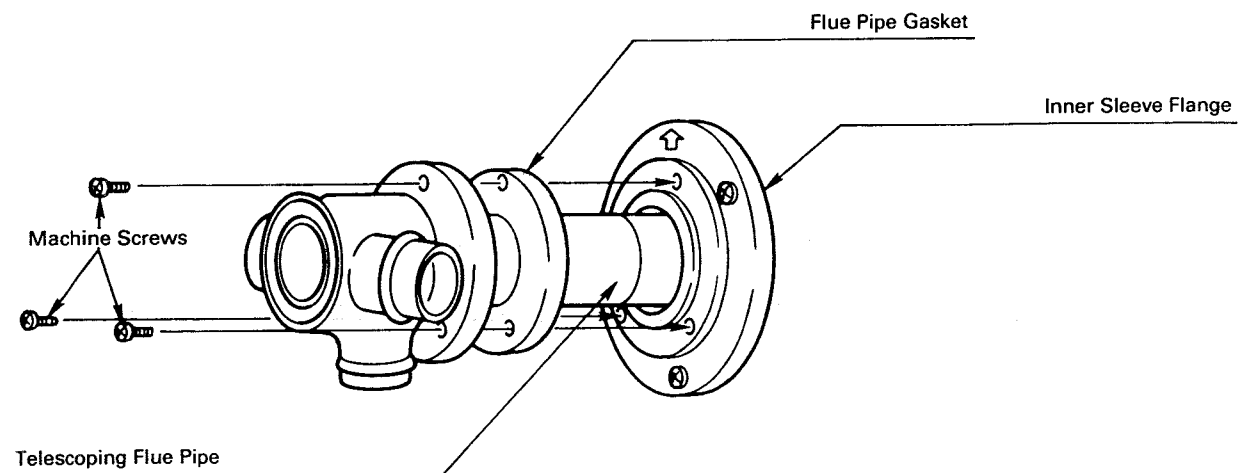

Fig. 11
6. a. From inside the room, insert the telescoping flue pipe with gasket attached through the wall sleeve. Secure the telescoping flue pipe to the inner sleeve flange with the three machine screws provided with the heater (See Fig. 11).